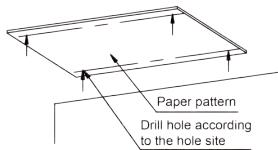

Fig4.3
- (1) Using the installation template, drill holes for bolts (four holes). (Fig. 4.3)